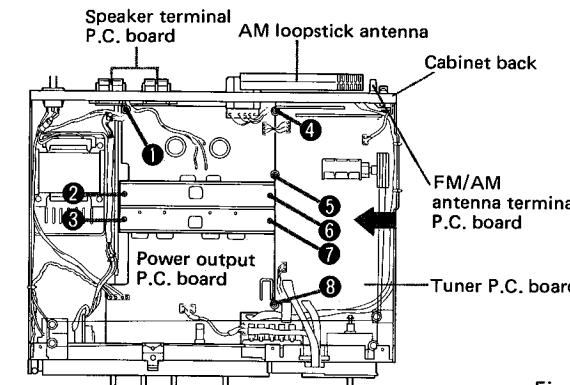

Fig. 5
7. Remove the screws ① to ③ in Fig. 5.
9. Remove the power output P.C. board backward, and remove the tuner P.C. board in the direction of an arrow shown in Fig. 5.
7. Remove the screws ① to ⑧ in Fig. 5.